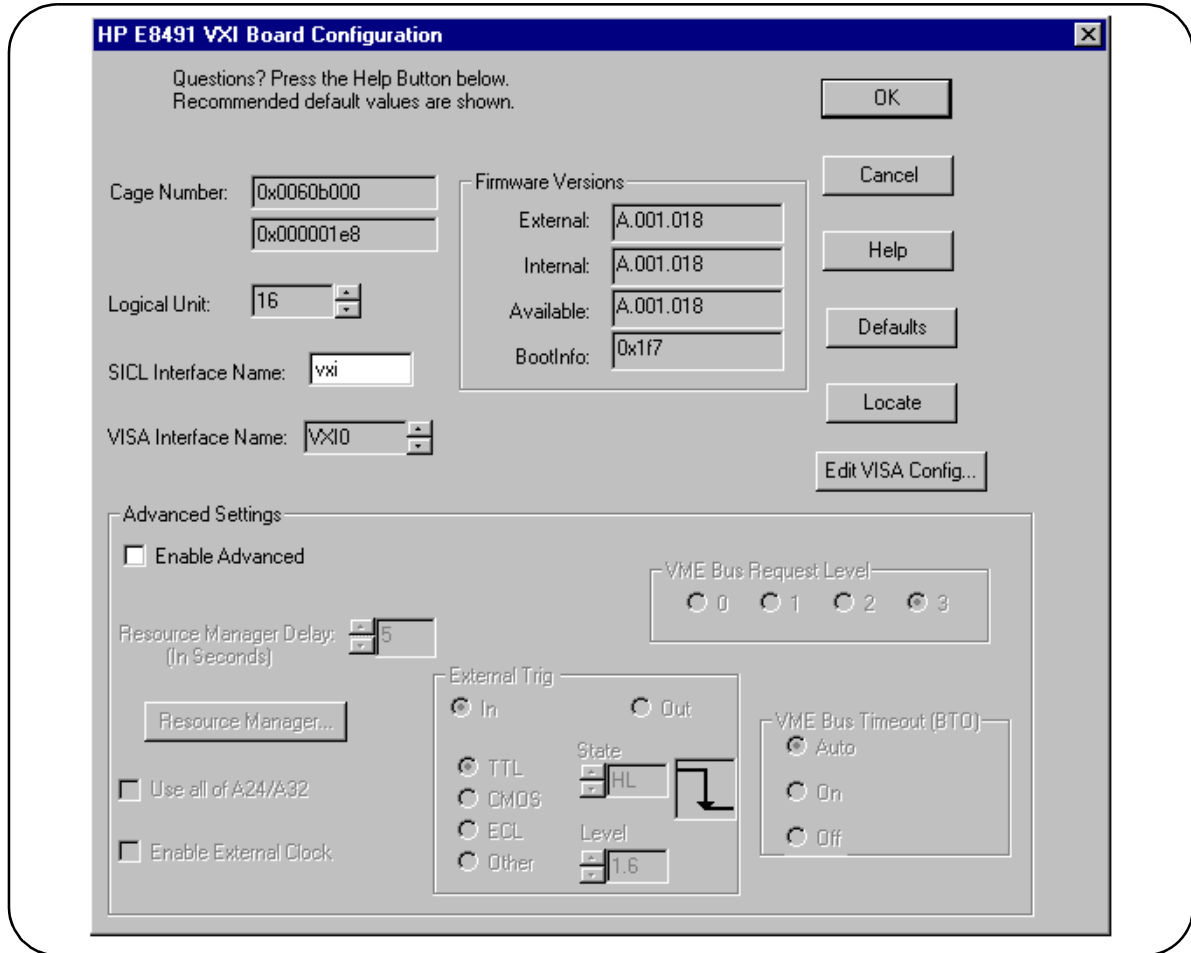

Figure 2-12. Editing the HP E8491B Configuration.
The HP E8491B uses the SICL interface name ‘vxi’ and the VISA interface name ‘VXI’ (Figure 2-12). The VISA interface number is assigned by the ‘I/O Config’ utility and is unique to each E8491B. The interface name and number identify each mainframe in multi-frame VXI systems, and are also used in addressing each instrument in the mainframe. The unique interface number allows instruments with the same logical addresses to be installed in different mainframes, but in the same system.
- 2a. Select the "Configured Interfaces" name corresponding to the E8491B to bring up the HP E8491 VXI Board Configuration window (Figure 2-12).